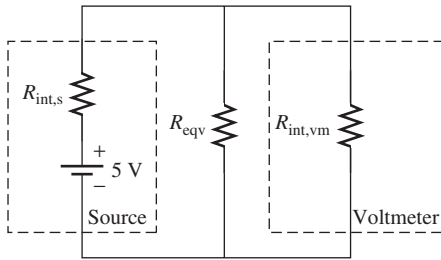

FIGURE P14.17 Using a voltmeter to check circuit voltage.
- 14.17** (A) A 5 V source (V_s) with a $5\ \Omega$ internal resistor ($R_{\text{int},s}$) is providing power for a circuit whose equivalent resistance (R_{eqv}) is $500\ \Omega$ (shown in Figure P14.17). Assume that you use a voltmeter with a $1\ \text{M}\Omega$ internal resistor ($R_{\text{int},\text{vm}}$) to check the voltage on the circuit. When you begin to check the voltage, how will the voltage applied on the circuit change? How much will it change? If the voltmeter's internal resistor is $500\ \Omega$, how much would the change be?